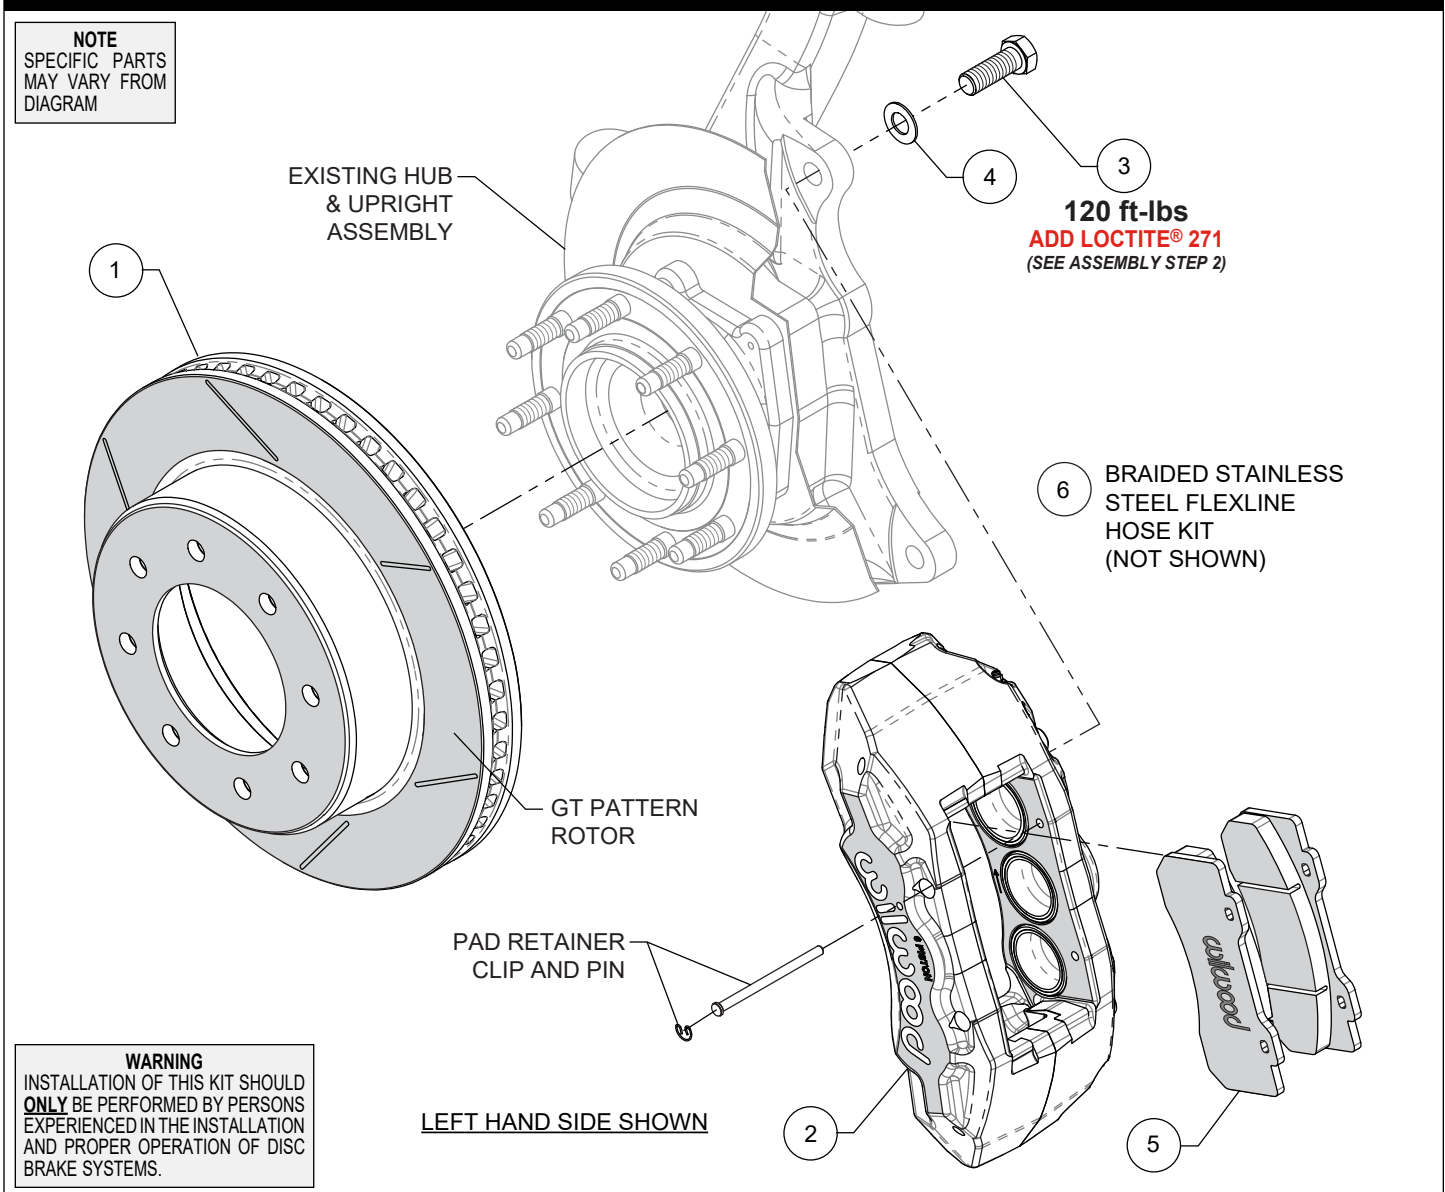

Figure 1. Typical Installation Configuration
Numbers in parenthesis refer to the parts list and Figure 1 on the preceding pages.
STEP 1 Slide the rotor (1) onto the hub. **NOTE:** *The rotor must fit flush against the hub flange or excessive rotor run out may result.* Install three lug nuts (finger tight) to keep the rotor in place while continuing with the installation, Photo 1.
STEP 2 **NOTE:** *This kit contains distinct right and left hand calipers that must be mounted in a specific direction, as described below.* Ensure that the caliper is mounted so the largest pistons are at the rotor exit end of the caliper, in relation to the forward direction of the rotor. Mount the caliper (2) onto the OEM caliper mounting bosses of upright using bolts (3) and washers (4), as shown in Figure 1. Apply red *Loctite*® 271 to bolt threads, and torque to value shown in Figure 1.
STEP 3 Remove the two pad retaining pins from the caliper by carefully popping out the pin retaining clips and sliding out the pins. Insert the brake pads (5) into the caliper, with the friction material facing the rotor, as shown in Photo 2. Secure the brake pads in place with the pad retaining pins and clips, Photo 3.
STEP 5 Attach brake line to caliper. **NOTE:** *OEM rubber brake hoses generally cannot be adapted to Wilwood calipers.* Install Wilwood's braided stainless steel flexline hose kit (6), p/n 220-10979, included with this kit. The caliper inlet fitting is a 1/8-27 NPT. Use the included steel adapter fitting at the caliper (use PTFE tape on the pipe threads of adapter fitting for proper sealing to caliper). Note the final orientation of the caliper inlet adapter fitting as shown in Photo 4.